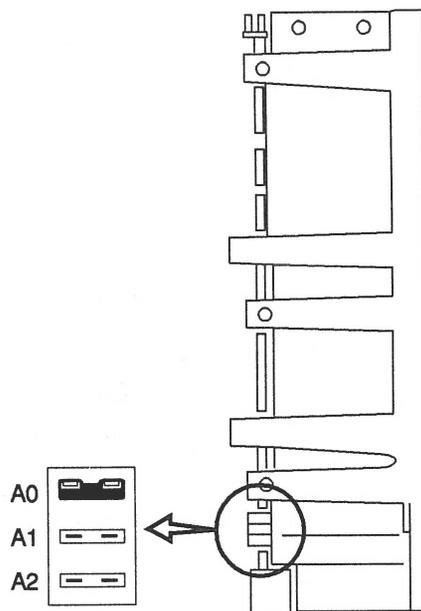

Figure 2-5 Drive Position 1 Jumper Settings
- b. If you are going to install a drive in position 1, compare the device address jumper settings to the settings shown in Figure 2-5.**
If the device address jumper settings are the same as in Figure 2-5, leave them as they are.